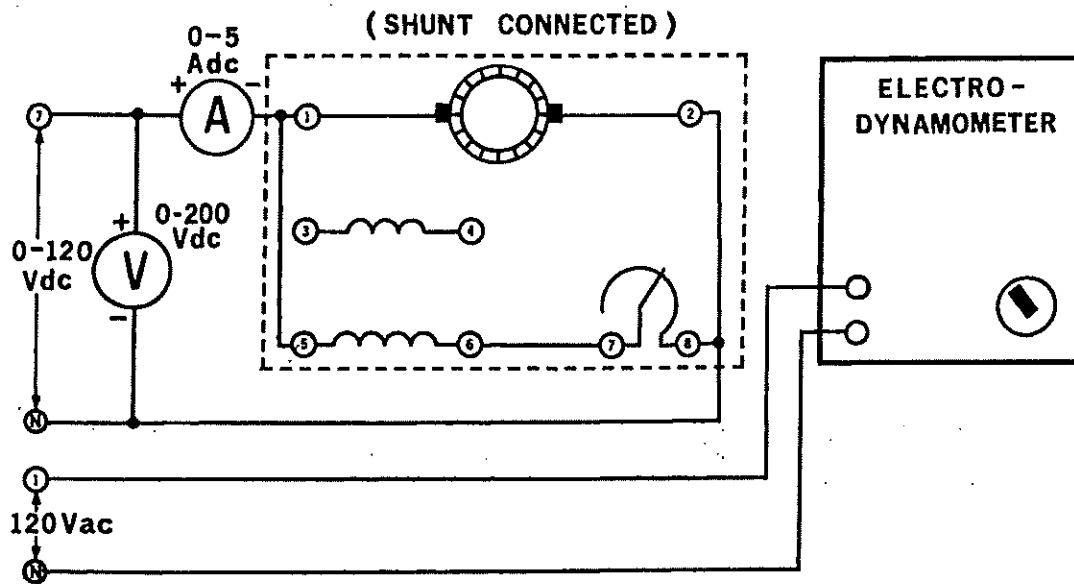

Figure 4-1.
- 1. Using your Power Supply, DC Motor/Generator, DC Voltmeter/Ammeter and Electro-dynamometer, connect the circuit shown in Figure 4-1.